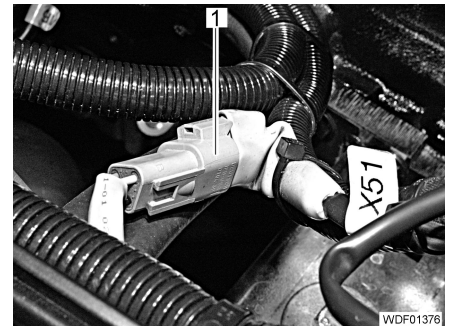

Fig. 101 Cable to the fuel level sensor
- Connect the plug (Fig. 101,1).